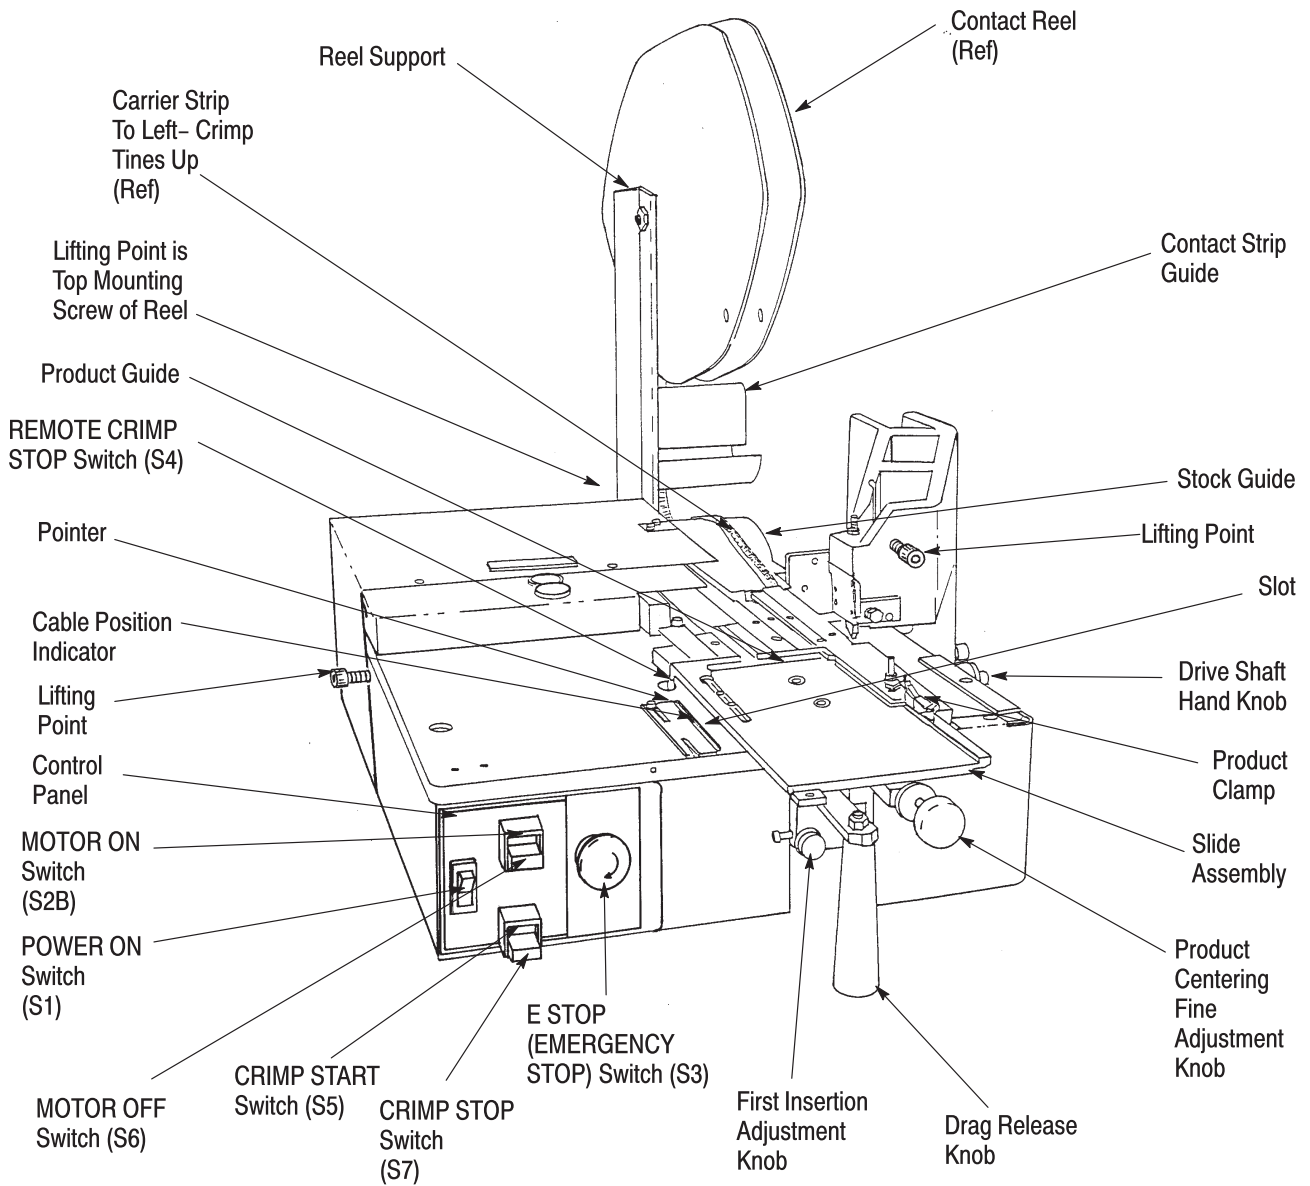

Figure 3
### 2.1. Physical Description (Figure 3)
The terminating machine is operated using the switches on the control panel (see Figure 3). The control panel consists of a PWR ON toggle switch (S1) with an internal indicator light, a MOTOR ON switch (S2B) ; MOTOR OFF switch (S6), a CRIMP START switch (S5); CRIMP STOP switch (S7), and an EMERGENCY STOP (S3).
The reel support holds the reel of contacts during the crimping operation. The contact strip rotates off the contact reel from the front, feeds around the back of the contact strip guide, and enters the strip guide tooling with the crimp tines facing upward and the carrier strips positioned toward the reel support. See Figure 3.
2. Place the machine on a bench according to the information in Paragraph 3.2, Factors Affecting Machine Placement, by using the specified lifting points in Figure 3.
3. Install reel support onto back of machine (See Figure 3).
##### 4.1. Loading Contacts (Figure 3)
*The contact strip MUST unreel from the front of the contact reel so that the contacts enter the strip guide tooling with the crimp tines facing upward and the carrier strip positioned toward the left. Refer to Figures 3 and 15.*